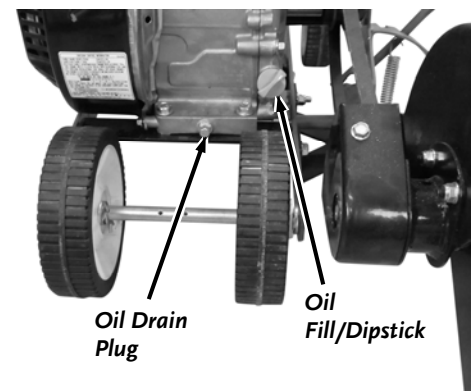

Figure 19
1. Position the machine so the Frame and Engine are level and place a Waste Oil Container under the Oil Drain Plug (**Figure 19**).